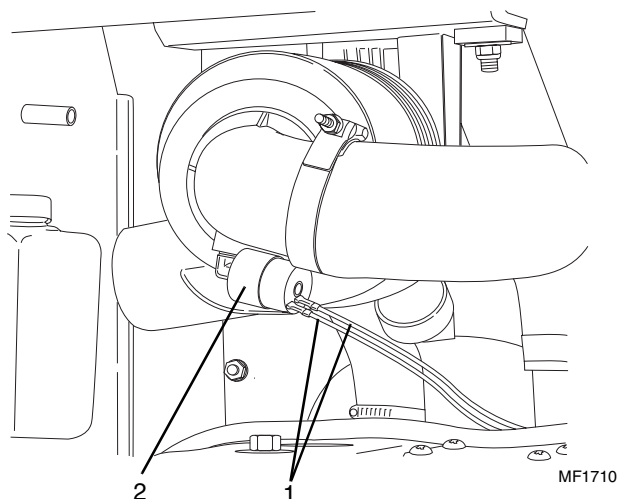

Figure 10-56 Air Restriction Indicator Switch
24. Disconnect red/blue wire #28 and black wire #2H (Fig. 10-56, 1) from the air cleaner restriction switch (2).